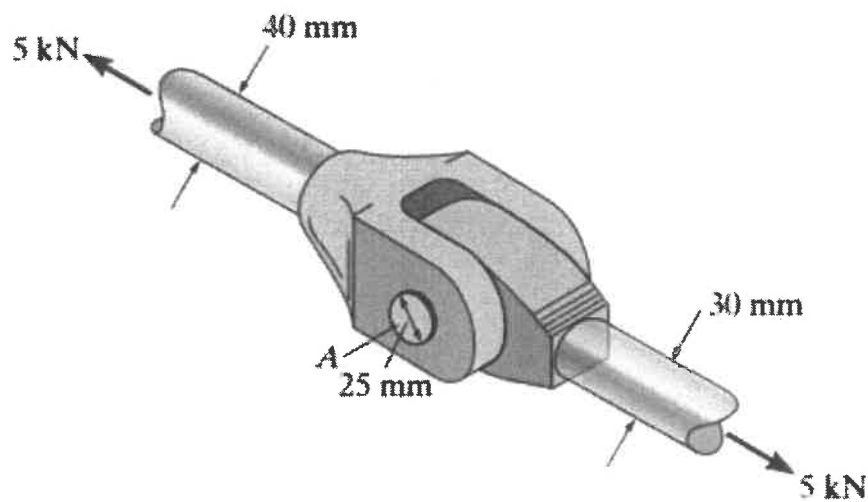

Figure 3: Yoke Rod Connector
- Refer Below - Figure3 : Yoke Rod Connector .*